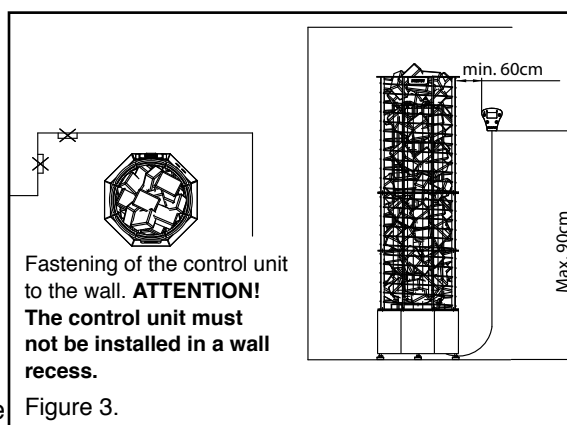

Figure 3.
- The installation height of the control unit is a maximum of 90 cm and a minimum of 60 cm from the side of the heater (see Fig. 3).